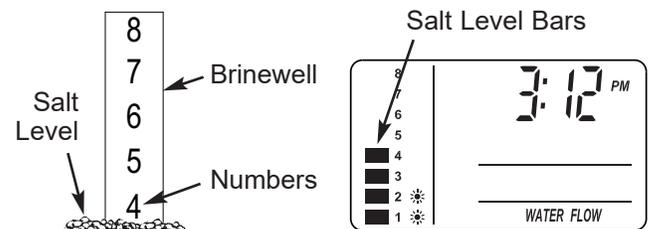

FIG. 25
2. The salt level scale, on the brinewell inside the tank, has numbers from 0 to 8 (see Fig. 25). Observe the highest number the leveled salt is at, or closest to.
3. Press the SET SALT LEVEL button as many times as necessary to make the salt level bars in the display (see Fig. 25) match the number on the brinewell. At level 2 or below, the “Low Salt” light will flash.